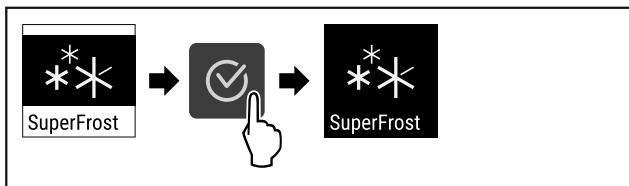

Fig. 93
- ▶ Complete steps (see Fig. 93).